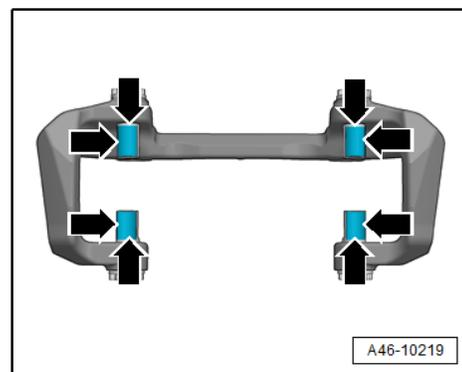

Figure 4. Caliper carrier guide pins with anti-seize (**G 052560A2**) lubricant applied where the pads make contact.
- Apply a thin coat of anti-seize (**G 052560A2**) lubricant to the guide pins of the caliper carrier (Figure 4).